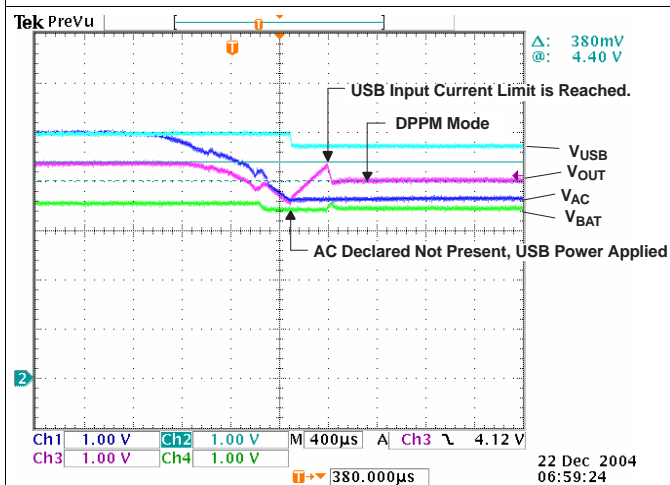

Figure 10. Remove AC – PWR XFER to USB
**Figure 10** illustrates when AC is removed, power transfers to USB; PSEL = H (AC primary source); channel 1 (CH1)  $V_{AC} = 5.4$  V; channel 2 (CH2)  $V_{(USB)} = 5$  V; channel 3 (CH3)  $V_{OUT}$ ; output current,  $I_{OUT} = 0.25$  A; channel 4 (CH4)  $V_{BAT} = 3.5$  V; and  $I_{(PGM-CHG)} = 1$  A. The power transfer from AC to USB only takes place after the primary source (AC) is considered bad (too low,  $V_{AC} \leq V_{BAT} + 125$  mV) indicated by the ACPG FET turning off (open drain not shown). Thus, the output drops down to the battery voltage before the USB source is connected (6th div). The output starts to recover when the USB FET starts to limit the input current (7th div) and the output drops to the  $V_{(DPPM-REG)}$  threshold.